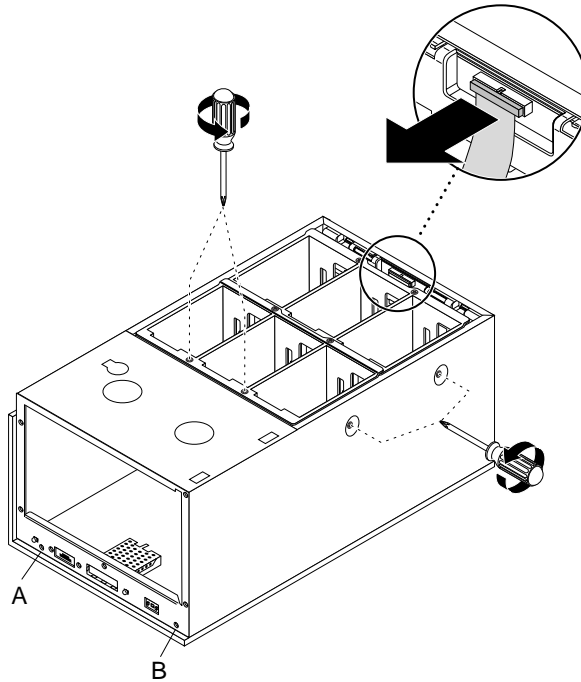

FIGURE 3-24 Removing the Drive Cage and the LED Cable From the LED Clip
6. Remove the drive cage (FIGURE 3-24). There are six screws to remove:
- Two screws on the back of the chassis near the I/O connectors (FIGURE 3-24, A and B)
1. Remove the LED cable from the LED clip (FIGURE 3-24).